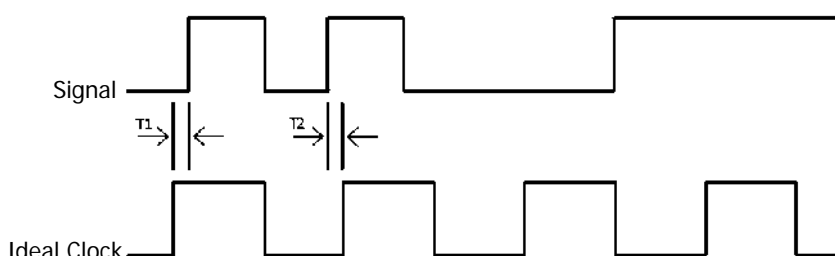

Figure 7-1 Digital Bus Jitter
- Press **Jitter Reject** to turn on the jitter rejection function. Jitter refers to the short-term deviation of the signal relative to its ideal time position at certain time point, as shown as T1 and T2 in Figure 7-1. When no reference clock is selected for the bus, the jump status of each channel would cause the variation